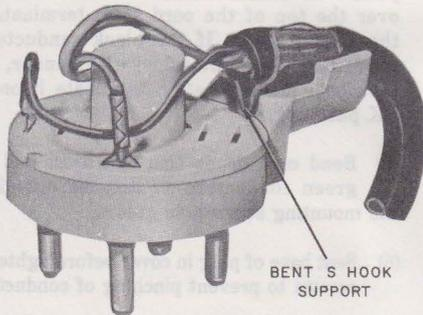

Fig. 18—Early Model D3BU Cord Connected to 505A Plug
- (1) Remove P-18E457 adapter and S hook from the cord.
- (2) Make a right angle bend in the S hook support of the stay band in the direction away from the cord conductors (Fig. 18).
- (3) Position the mounting cord in the cord channel so the S hook support is seated in the slot adjacent to the cord tip guide (Fig. 18).
- (4) Fit the cord fastener into the groove in the cord channel and press until it snaps into position.